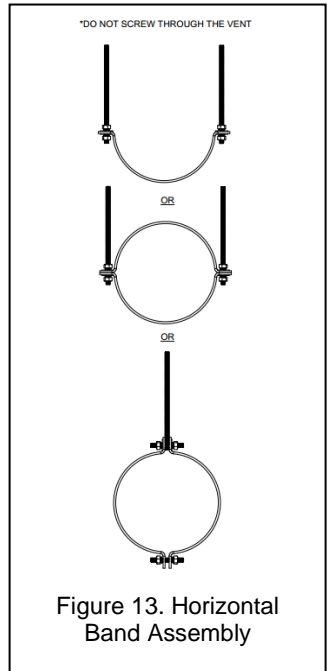

Figure 13. Horizontal Band Assembly
Typical configurations are shown in Figure 13. Never puncture or screw through the vent Length (L), or any part.